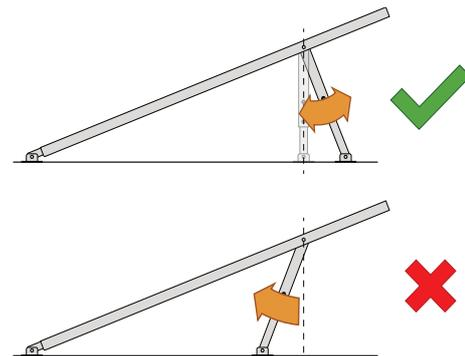

Fig 1
2. Adjust the stand side section until the front foot sits over suitable fixing substrate (i.e. purlin) and repeat process outlined in step 1. (Ensure that back leg section maintains a structural angle as shown in fig 1)